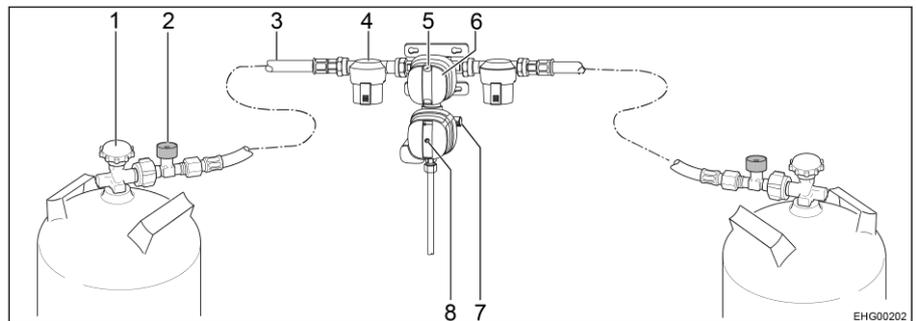
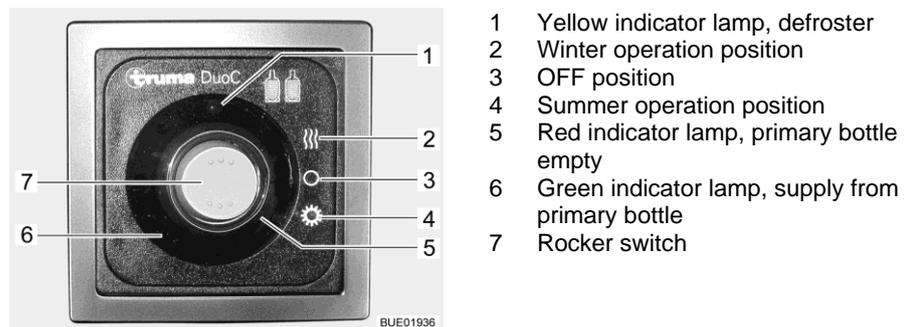

Fig. 121 Safety gas pressure regulating system DuoControl CS
Fig. 122 Operating unit (DuoControl)
The DuoControl regulating system consists of a reversing valve and a crash sensor. The DuoControl regulating system is installed between the high-pressure hoses (Fig. 121,3) with hose break guard (Fig. 121,2). The knob (Fig. 121,6) on the reversing valve is used to select which of the gas bottles is to be used as primary bottle and which is to be used as reserve bottle.
The status of the gas supply is indicated in the inspection window (Fig. 121,5):
Crash sensor The crash sensor blocks the gas supply in the event of a significant impact (e.g. accident). The situation of the yellow reset button (Fig. 121,8) indicates the operating status of the crash sensor:
- If the yellow reset button (Fig. 121,8) is in the pressed-in position, the crash sensor is ready to operate.
- If the yellow reset button (Fig. 121,8) is protruding, the crash sensor is **not** ready to operate. Putting into operation, see below.
Hose break guard The hose break guard (Fig. 121,2) blocks the gas flow if the connected hose breaks. The hose break guard must be activated by pressing the green button.
Operating unit The operating unit shows the status of the primary bottle. When the green indicator lamp (Fig. 122,6) illuminates, the primary bottle is full. When the red indicator lamp (Fig. 122,5) illuminates, the primary bottle is empty. In this case, the reserve bottle is used for the gas supply.
If the heater of the DuoControl regulating system (defroster) is active, the yellow defroster indicator lamp (Fig. 122,1) is lit.
In addition, the operating unit (Fig. 122) is also used to set summer operation or winter operation.
Setting summer operation: ■ Press lower part of the rocker switch (Fig. 122,7) (summer operation position (Fig. 122,4)).
Setting winter operation: ■ Press upper part of the rocker switch (Fig. 122,7) (winter operation position (Fig. 122,2)).
- Use the knob (Fig. 121,6) on the reversing valve to select the gas bottle which is to be the primary source of gas (primary bottle). Always turn the knob as far as it will go.
- Open regulator taps (Fig. 121,1) on the gas bottles.
- Press and hold the green button of the hose break guard (Fig. 121,2) for about 5 seconds. The green marking is shown in the inspection window (Fig. 121,5).
- If the crash sensor has triggered (the yellow reset button (Fig. 121,8) is protruding):
Press the yellow reset button (Fig. 121,8) in forcefully, turn it slightly in a clockwise direction and hold it for about 5 seconds. Make sure that the reset button remains in the pressed-in position ("ready for operation"). If it is not possible, reset the system as described: Use the Torx insert T20 on the included screwing aid to strengthen the rotary movement.
- Set the rocker switch (Fig. 122,7) to the OFF position (Fig. 122,3). The indicator lamps go out.
- Close regulator taps (Fig. 121,1) on the gas bottles.
If the green indicator lamp (Fig. 122,6) goes out during operation and the red indicator lamp (Fig. 122,5) lights up, the primary bottle is empty and must be changed. The red marking is shown in the inspection window (Fig. 121,5) of the associated gas bottle. The reserve bottle continues supplying the gas appliances with gas.
- Turn the knob (Fig. 121,6) as far as it will go in the direction of the gas bottle currently used. In this way, this gas bottle is the primary bottle now, and the empty gas bottle becomes the reserve bottle. The marking in the inspection window (Fig. 121,5) changes from red to green.
- Close regulator tap (Fig. 121,1) on the empty gas bottle. Pay attention to the direction of the arrow.
- Press the green button of the hose break guard (Fig. 121,2).